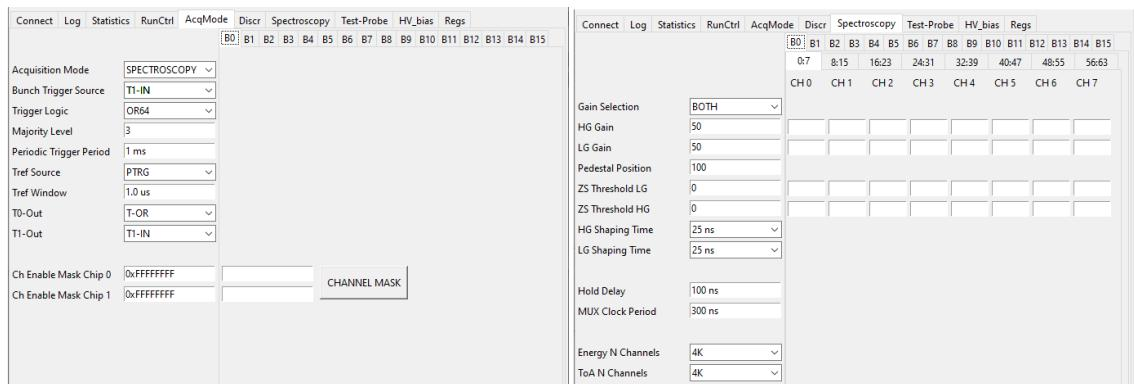

Fig. 10.43: The initial settings used for the acquisition of single photon spectra. On the left, the AcqMode tab, on the right the Spectroscopy tab.
3. Select the pulse height output from one of the two available amplification chains inside the Citroc-1A through the "Gain Selection" parameter. Fig. 10.43 shows the initial settings used for the acquisition of single photon spectra.